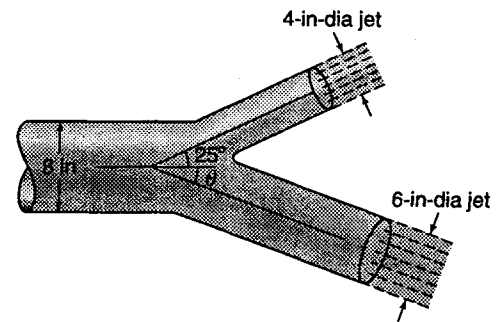

Figure X6.5.3
6.5.3 In Fig. X6.5.3, both nozzles discharge water horizontally into the atmosphere at 30 fps. Find θ so that the resultant force on the unit is along the axis of the 8-in-diameter pipe.